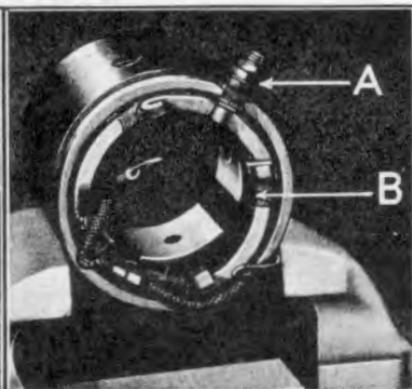

Fig. 490
- 961 Loosen terminal nut (See "A" Fig. 490) and lift out pole pieces and field coil assembly "B".